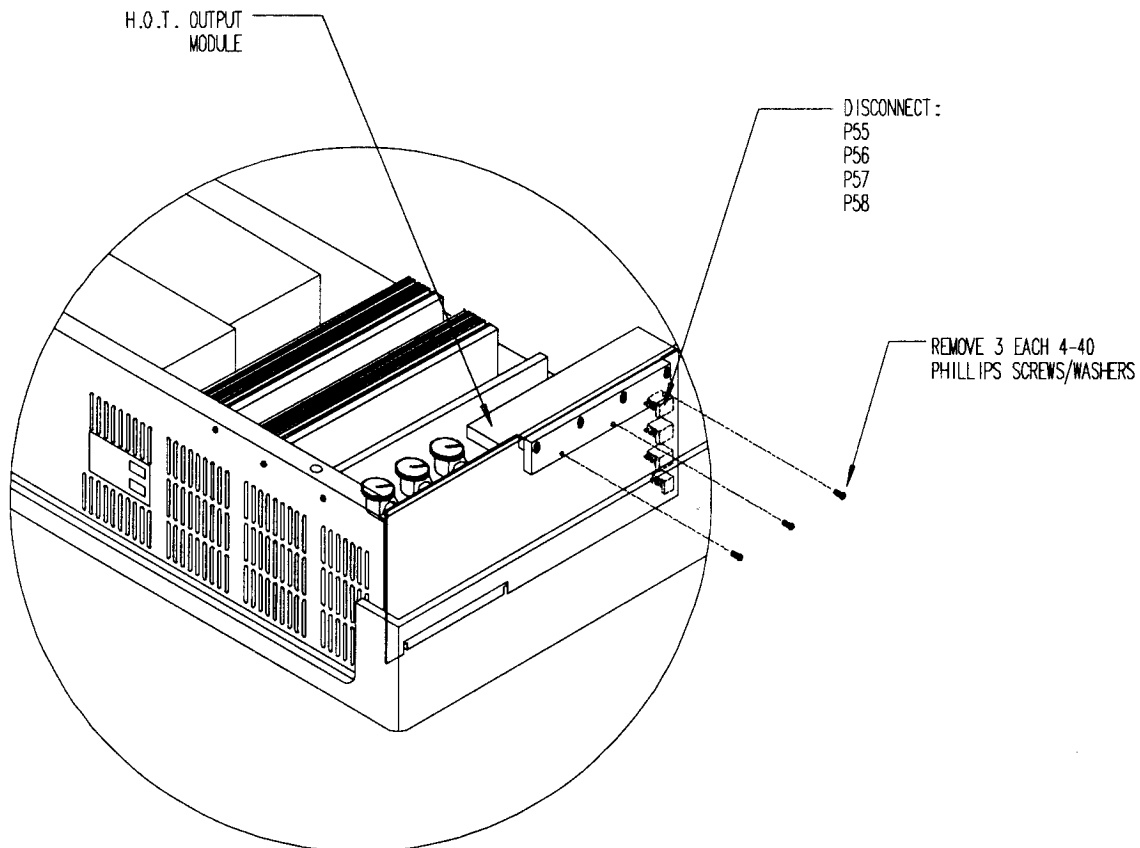

FIGURE 9-13. H.O.T. Output module replacement.
- STEP 5. Using the Green image as your reference, adjust the Red Vertical Height control to overlay or equal but opposite the error from top to bottom, concentrating on the top and bottom outermost horizontal lines. See Figure 9-13.
- STEP 3. The H.O.T. Output module is located to the extreme right of the main chassis as viewed from the rear, table mounted. See Figure 9-13.